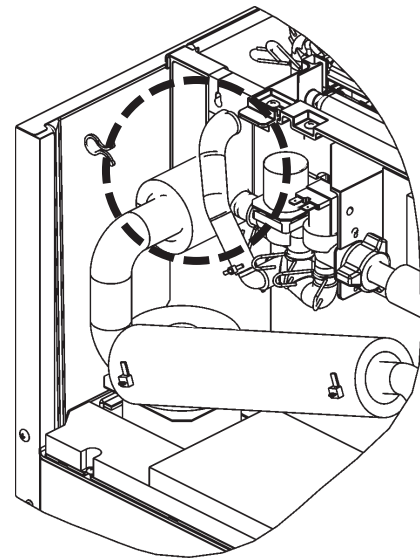

Fig. 1
- 5) Freeze Cycle – The compressor remains energized, pump motor, (line valve if applicable), and fan motor energize. The inlet water valve and hot gas valve de-energize. The unit is held in freeze by a 5 minute short cycle protection timer which starts after the thermistor temperature reaches 36°F (2°C). After this period, the freeze cycle operation is transferred to the float switch for freeze termination. During the first 5 minutes of freeze, confirm that the evaporator temperature drops. After the minimum freeze period, disconnect the float switch at the 2-pin connector attached to the red wires. See Fig. 1 for general location. The unit should immediately switch to the drain cycle. **Diagnosis:** If the evaporator is not cold, check to see if the hot gas valve is still open or if the expansion valve (on KM-160BAJ and 160BWJ only) is not opening properly, if the water valve is continuing to fill the reservoir, if there are improper unit pressures or an inoperative compressor. If the unit remains in freeze with the float switch removed, replace the board.
- 3) Disconnect the bin control at the 2-pin connector attached to the black wires (located in the circle in Fig. 1) coming from the K1 connector (pins 4 & 5) on the control board.